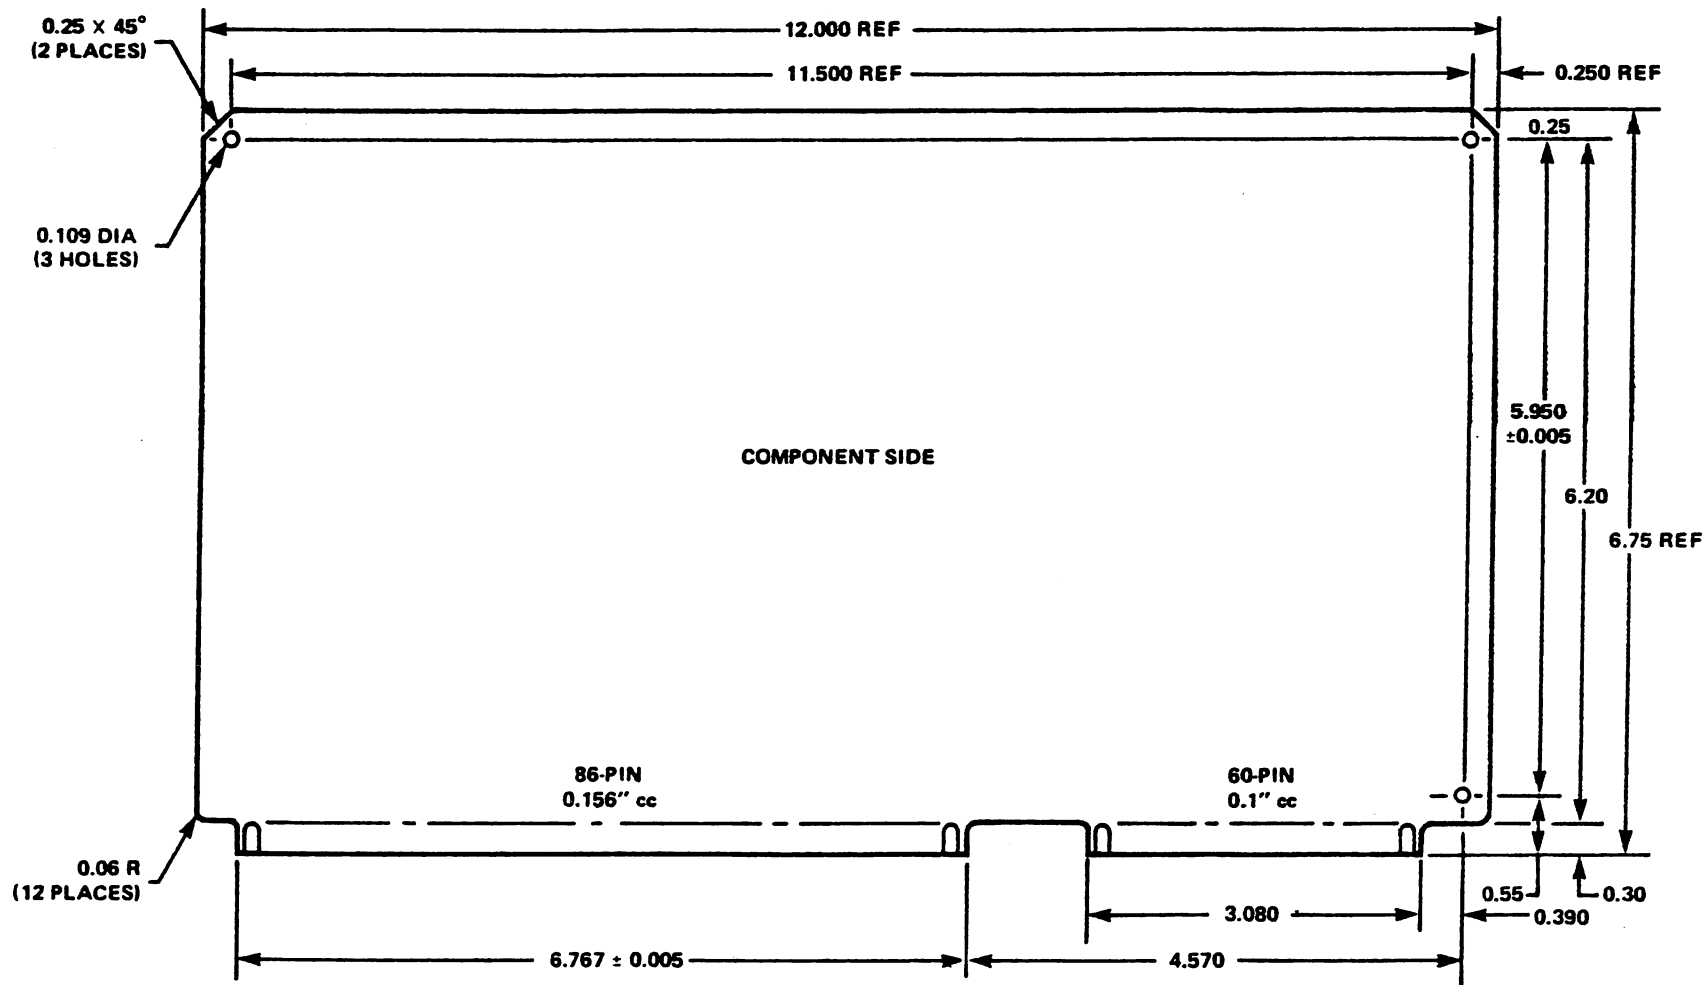

FIGURE 4
0.156 in. contact centers, as shown in Figure 4. Control Data VPB01E43A00A1 is one suitable type of connector. Pin allocations on this connector are given in Table 4. The auxiliary 60-pin, double-sided PC edge connector (P2), 0.1 in. contact centers (see Figure 4) is used for test purposes. Pin allocations for this connector (primarily used for test points) are listed in Table 5. Refer to Table 3 for DC Power Requirements. Refer to the pin list in Table 4 for power connections.